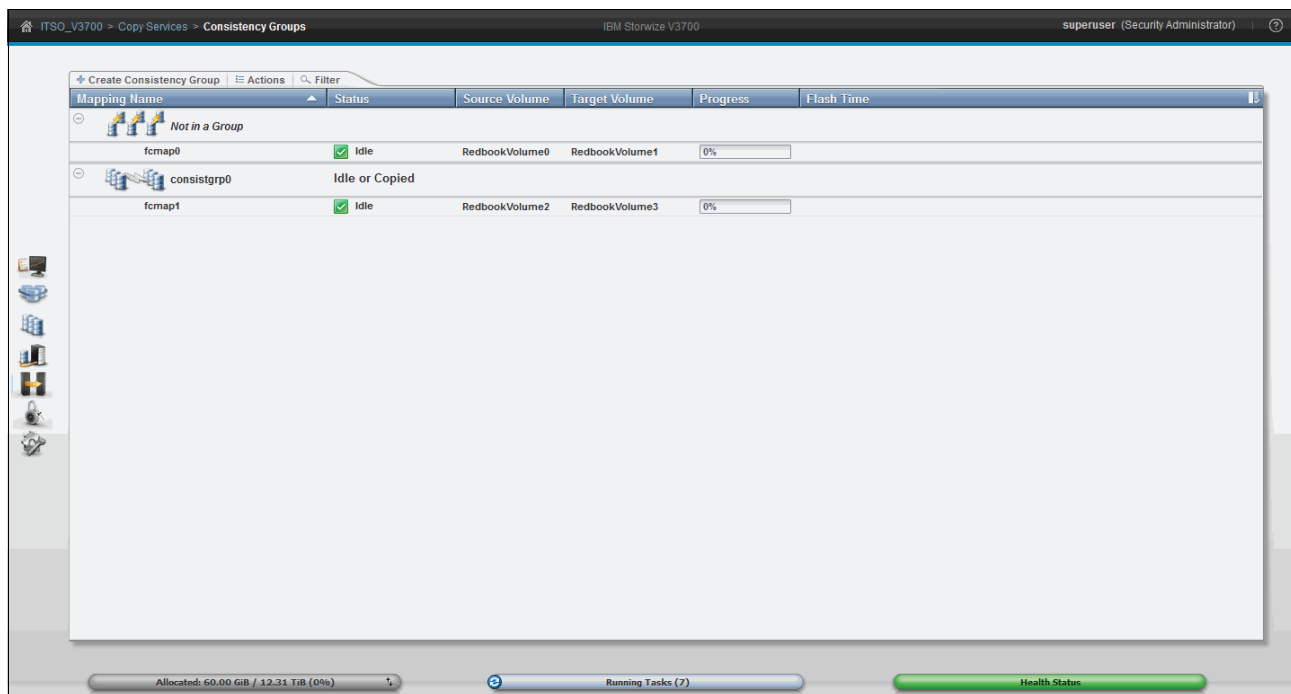

Figure 10-7 Consistency Groups window
3. The Consistency Groups window is used to manage the consistency groups for FlashCopy mappings. Click **Consistency Groups** in the Copy Services function icon menu and the Consistency Groups window opens, as shown in Figure 10-7.